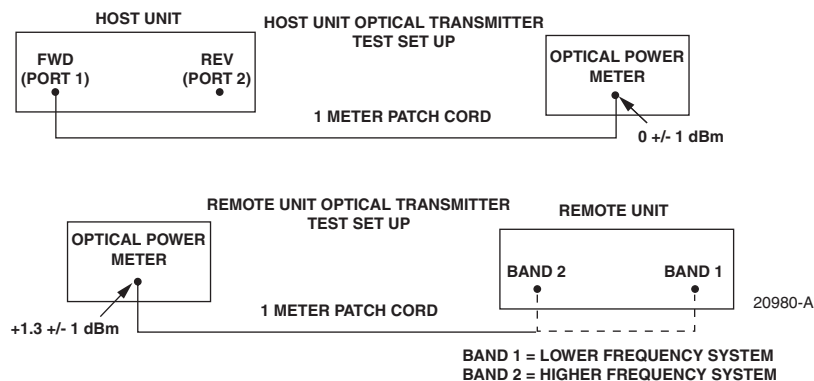

Figure 4-3. Host Unit and Remote Unit Optical Transmitter Test Set Up
12. Use a 1 meter patch cord to connect the optical power meter to the **transmitting** HU or RU as shown in Figure 4-3.